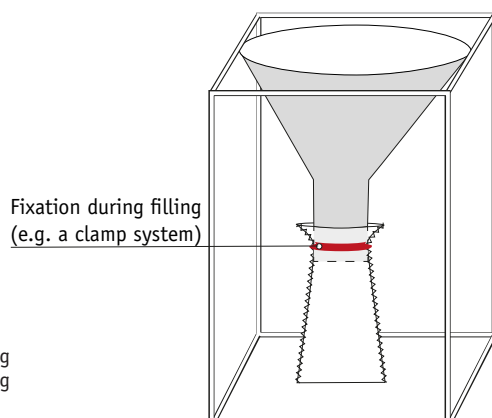

Fig. 3 Standing filling frame with a filling funnel
- Filling frame e.g. with a filling funnel (see exemplarily Figure 3)